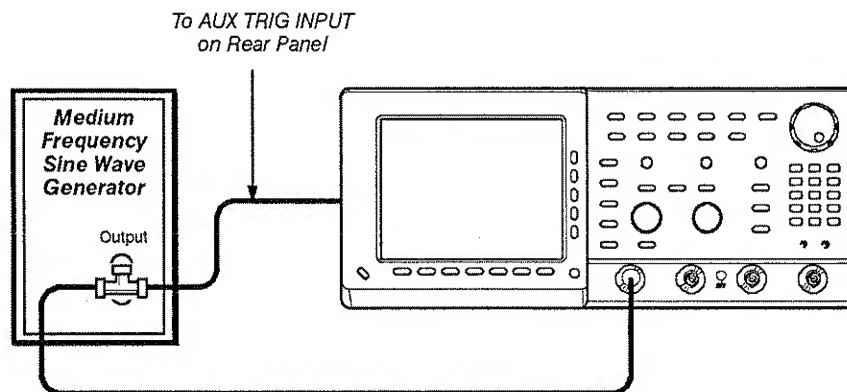

Figure A-19: Initial Test Hookup – TDS 540 Only
- TDS 540 only: Connect the signal output of a medium-frequency sine wave generator to a BNC T connector. Connect one output of the T connector to **CH 1** through a 50  $\Omega$  precision coaxial cable; connect the other output of the T connector to the **AUX TRIG INPUT** at the rear panel. See Figure A-19.